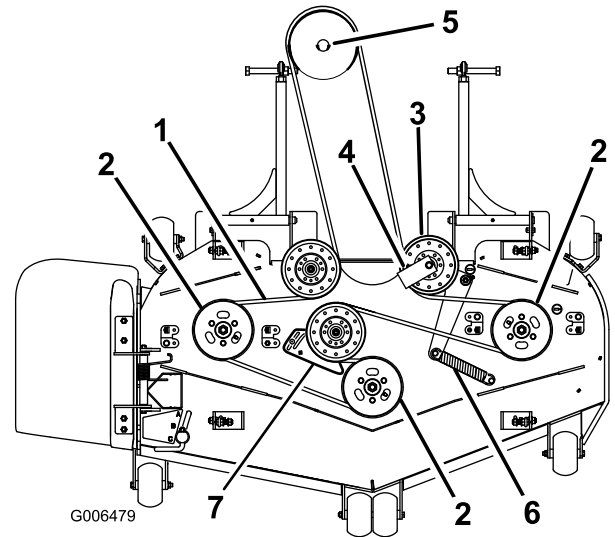
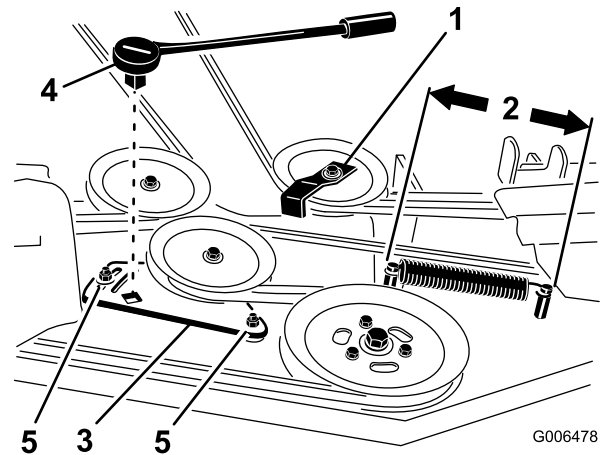

Figure 82
Figure 84
6. For 72 inch mowers, loosen the idler plate bolts holding the idler plate (Figure 84).
8. Remove the belt guide on the spring-loaded idler pulley shown in Figure 82 and Figure 84.
10. Install the new belt around the mower pulleys and the gearbox pulley under the engine (Figure 82).
11. Install the belt guide on the spring-loaded idler at a 45 degree angle as shown in Figure 82 and Figure 84. Torque the bolt to 37 to 45 N·m (27 to 33 ft·lb).
12. Install the idler spring to the 2 posts (Figure 82 and Figure 84).
4. Measure the spring length (Figure 84). If the spring length is between 25.4 to 26 cm (10 to 10-1/4 inches), from post to post, no adjustment is needed.
5. Loosen the bolts holding the idler plate (Figure 84).
6. Insert a ratchet or breaker bar into the square hole in the idler plate to adjust the tension (Figure 84).
to 26 cm (10 to 10-1/4 inches) from post to post as shown in Figure 84.
8. While holding the belt tension and spring length, tighten the idler plate bolts that secure the idler plate (Figure 84).